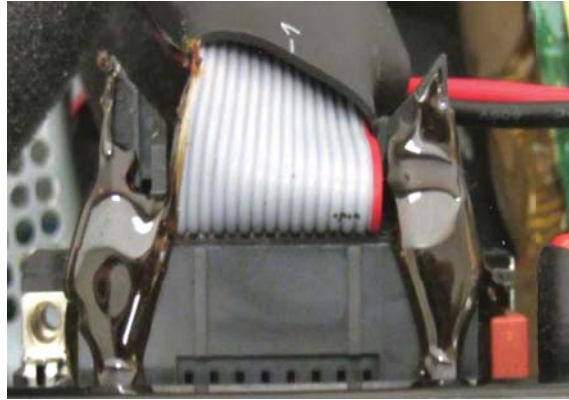

Figure 5.
2.8 Inspect the J602 connector on the IO PCB to ensure it is fully seated and the hot melt is on the locking tab. Apply hot melt, if needed, to keep the locking tabs locked. See figure 5.